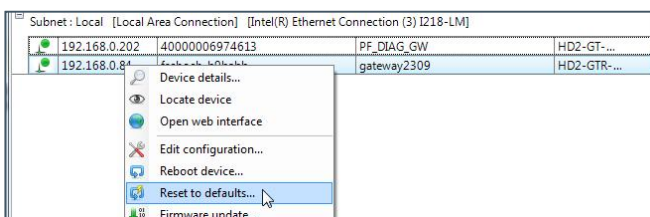

Figure 77: Obtaining IP address via DHCP
- 3) Corresponding to 8.2.2., the IP address can also be assigned automatically via DHCP. Right-click the gateway **IP address** and select **Reset to defaults...** (see: Figure 77: Obtaining IP address via DHCP).